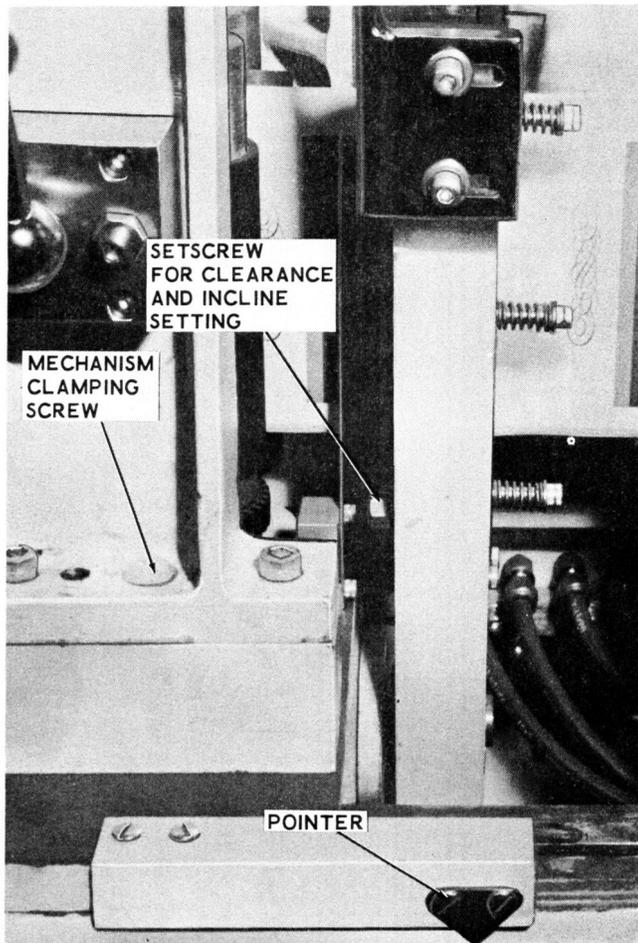
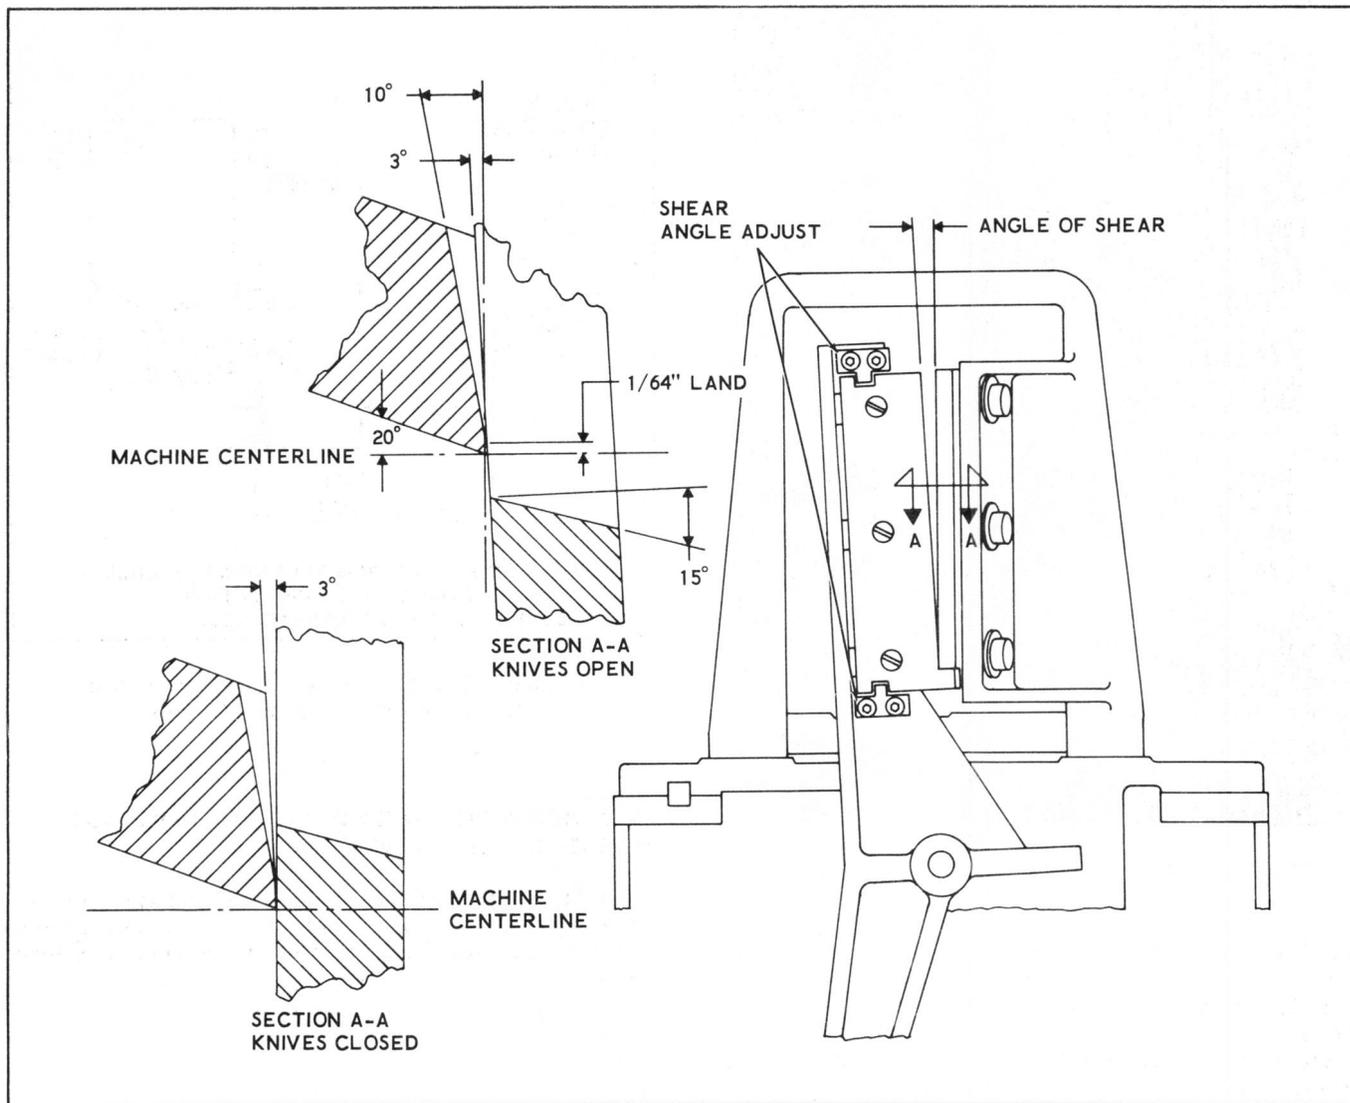
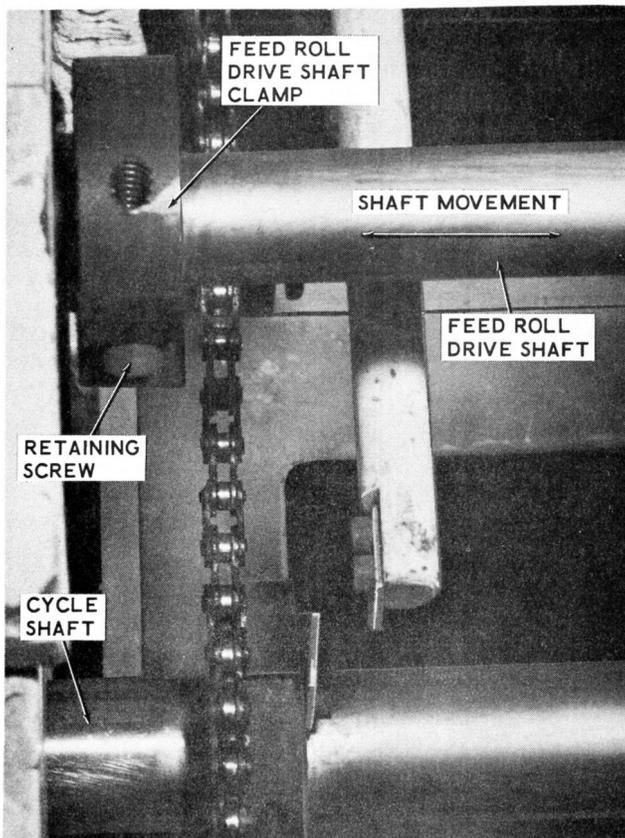

Figure 3-31. Knife Clearance Setscrew
Figure 3-32. Cutoff Knife Angles
Figure 3-33. Feed Roll Drive Shaft Clamp
c. Using setscrews (Figure 3-31) adjust the bottom clearance between blades and the 3 degree incline angle. When the blades are closed, there should be 0.010 to 0.015 inch clearance (Figure 3-32) between the blades at the bottom.
a. Loosen two screws (Figure 3-31) that clamp the mechanism housing to the packager bed. Loosen clamp on the feed roll drive shaft located near the left end (web roll) of the machine (Figure 3-33). Using the pointer (Figure 3-31) and the scale mounted on the front of the machine base, move the feed roll and cutoff mechanism until the pointer is one pouch width from the bag clamp pickup point.
c. Tighten two screws (Figure 3-31) to clamp feed roll and cutoff mechanism in position on packager bed. Tighten clamp on feed roll drive shaft (Figure 3-33).